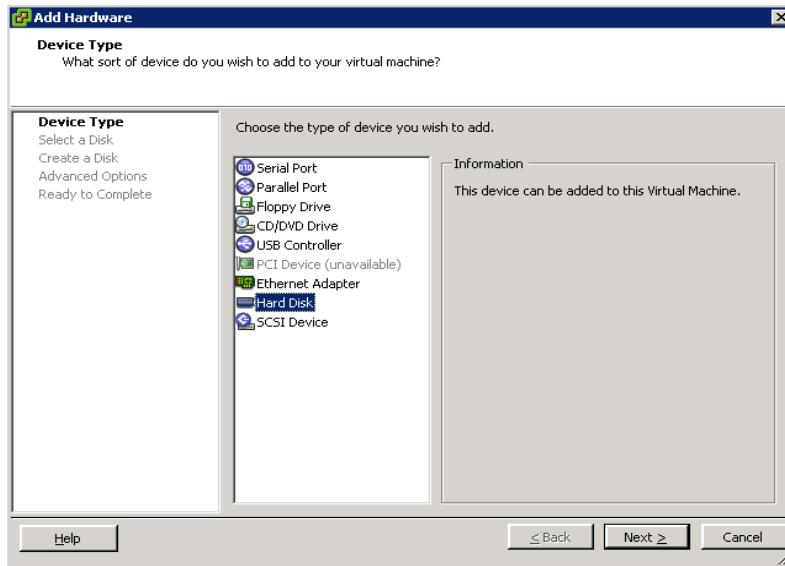

Figure 5-22. Add Hardware—Device Type
7. Select a device. In this example, select **Hard Drive** to add a storage device to the virtual machine, and then click **Next** (Figure 5-22).